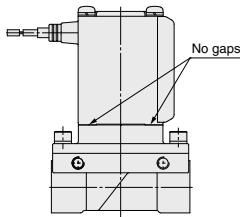
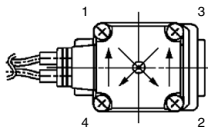

Fig.1
Fig.2
3) Push the coil assembly against the body and tighten the screws two or more rounds diagonally (Fig. 2) in the status that there are no gaps between the coil assembly and body (Fig. 1).
* After tightening the screws, make sure that there are no gaps between the coil and body (Fig. 1).